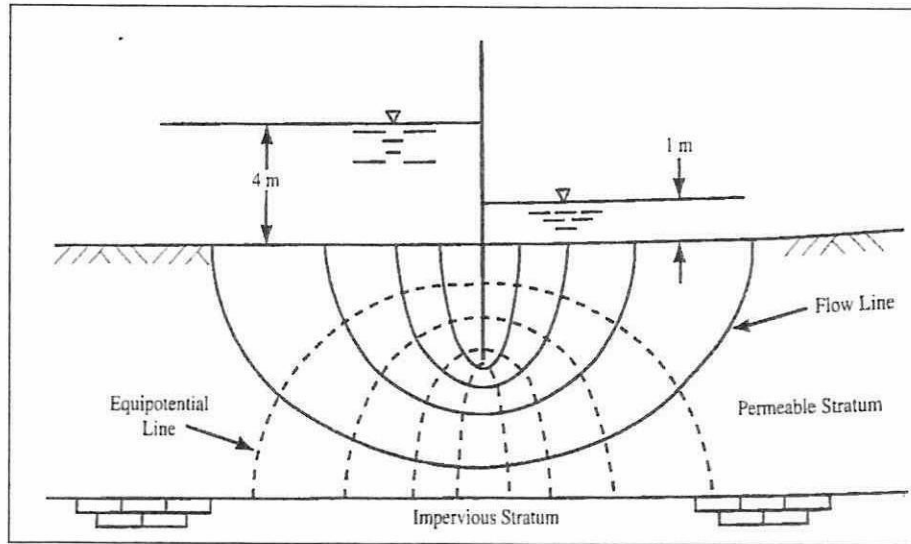

Figure Q6.1 Flow net.
- (d) For the flow net depicted in **Figure Q6.1**, the coefficient of permeability of the permeable soil stratum is 4.80×10^{-3} cm/s. Calculate the total rate of seepage per unit width of sheet pile through the permeable stratum.